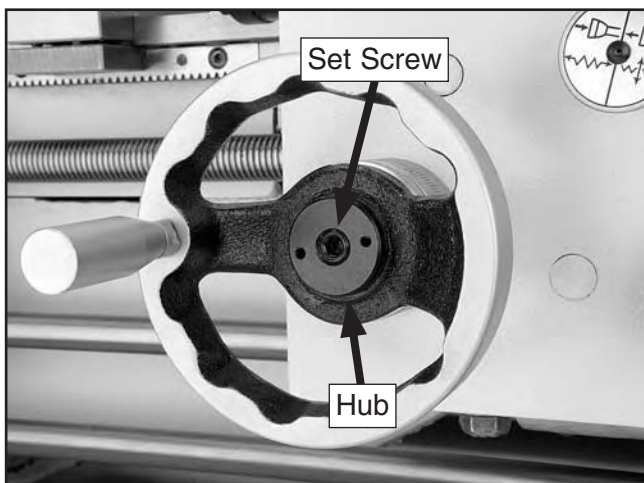

Figure 122. Handwheel hub and set screw.
2. Loosen the set screw on the handwheel hub two or three turns (see **Figure 122**).